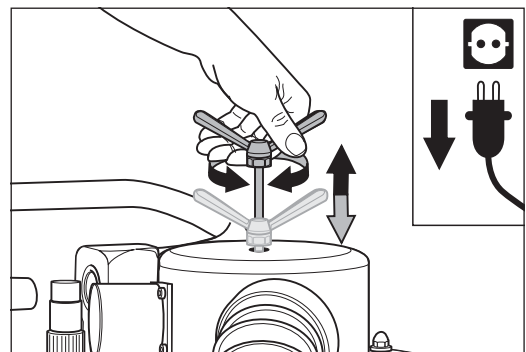

Fig. 61 Move the cleaning slide up and down while continuously turning the wing nut.
- 2 Grasp and turn the wing nut on top of the dust separator and gently pull it upwards, moving the cleaning slide integrated in the dust separator (fig. 61).